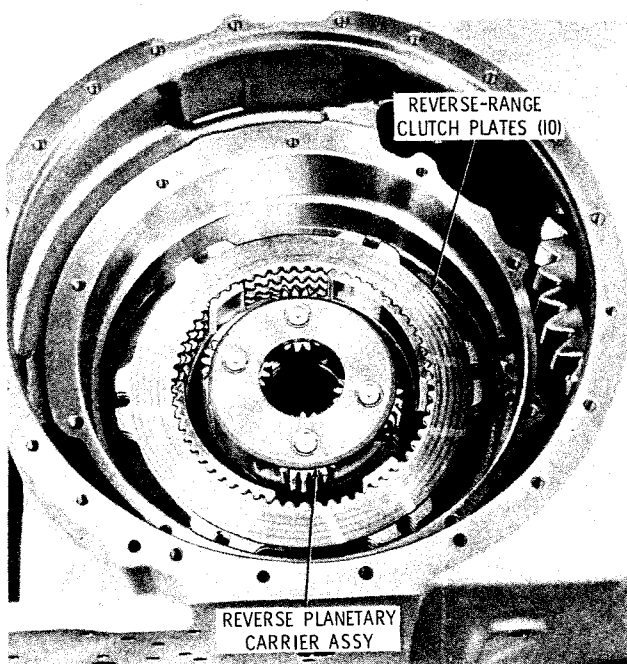

Fig. 5-28. Reverse planetary and clutch components
(6) Remove the reverse planetary carrier assembly and one internal-splined clutch plate as a unit (fig. 5-28). Remove the clutch plate from the carrier assembly. Refer to paragraph 6-12 for rebuild of the reverse planetary carrier assembly. Remove the remaining nine reverse-range clutch plates from the housing.